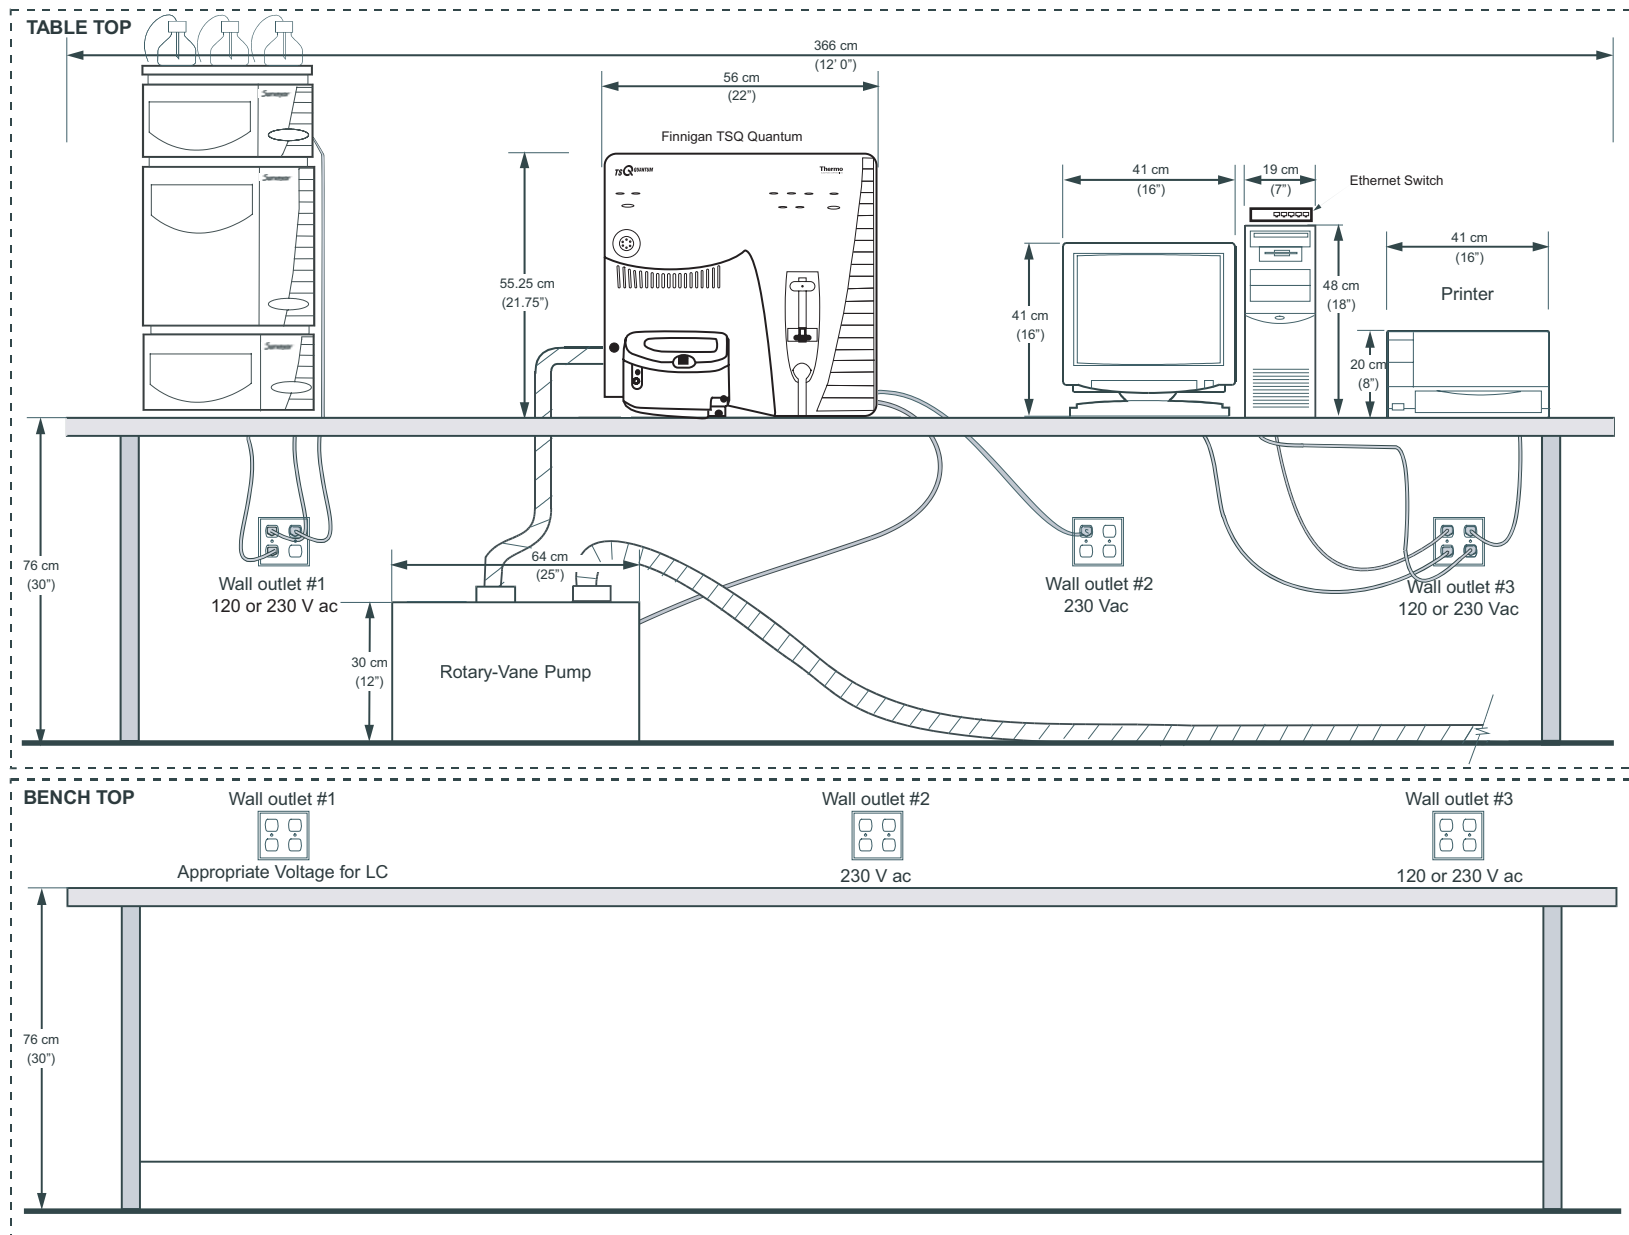

Figure 2-1. Installation and space requirements for your TSQ Quantum system
The recommended layout for the TSQ Quantum system is shown in Figure 2-1. The space requirements and weights of the components of the typical TSQ Quantum system are given in Table 2-2.
- If the workbench has space underneath it, place the forepump underneath the workbench immediately behind the TSQ Quantum mass spectrometer. (See the Table Top layout in Figure 2-1.) Either run the vacuum hose behind the workbench or make a 64 mm (2.5 in.) diameter hole through the bench for the vacuum hose. Allow for room to run the power cord from the forepump through the hole.